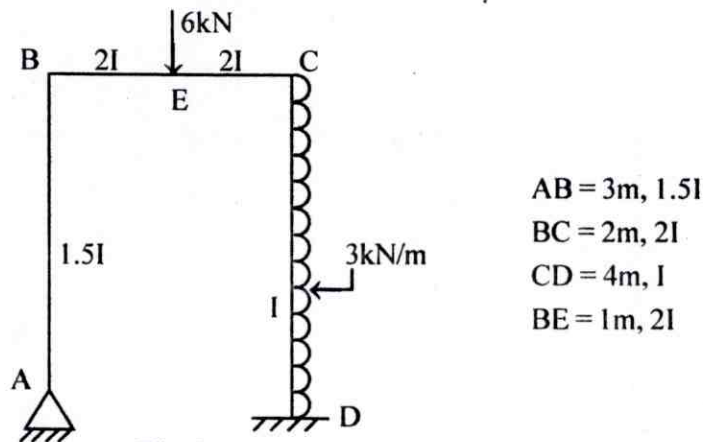

Fig. 3
2. A portal frame ABCD as shown in fig. 3 is hinged at A and fixed at end D. Analyze the frame using moment distribution method and draw the BMD and deflected shape. (16)